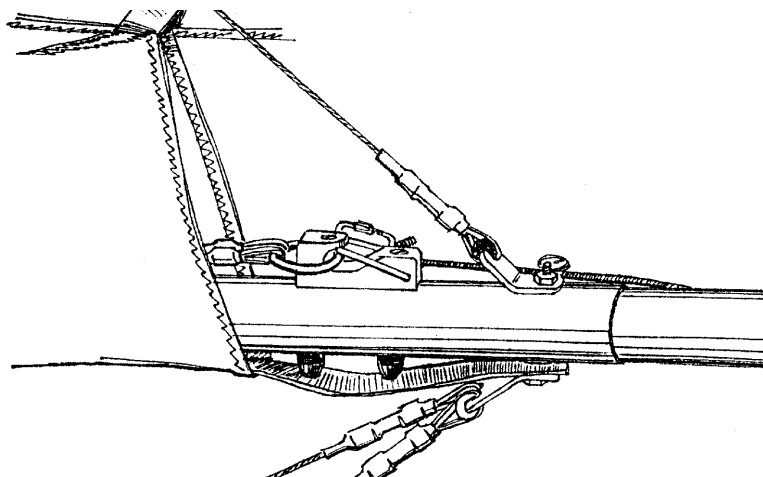

Fig.37
2.4.7. Check that the top rear wire is going properly through the tape loop on the sail and check that this wire, the keel mount webbing and bottom rear wires are safely secured to the N2 keel tube using the bolt, the nut and the safety ring (Fig.37).
2.4.10. Check that crossbar tensioning wires are secured in the lock on the keel tube and that reeded spring closes metal ring in the hook (See fig.37). Kingpost tensioning wires must go through the kingpost channel and must not be twisted. Maillon with the rubber rope attached must be closed.